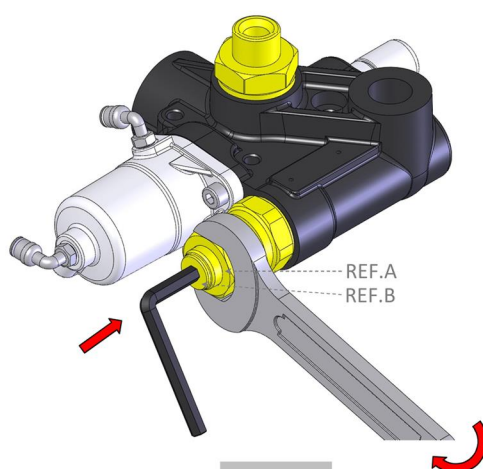

Fig.8
- 2.4. Lock the part. A (see ref.A on Fig.8) but keeping the carefully position to part. B (see ref.B on Fig.8);